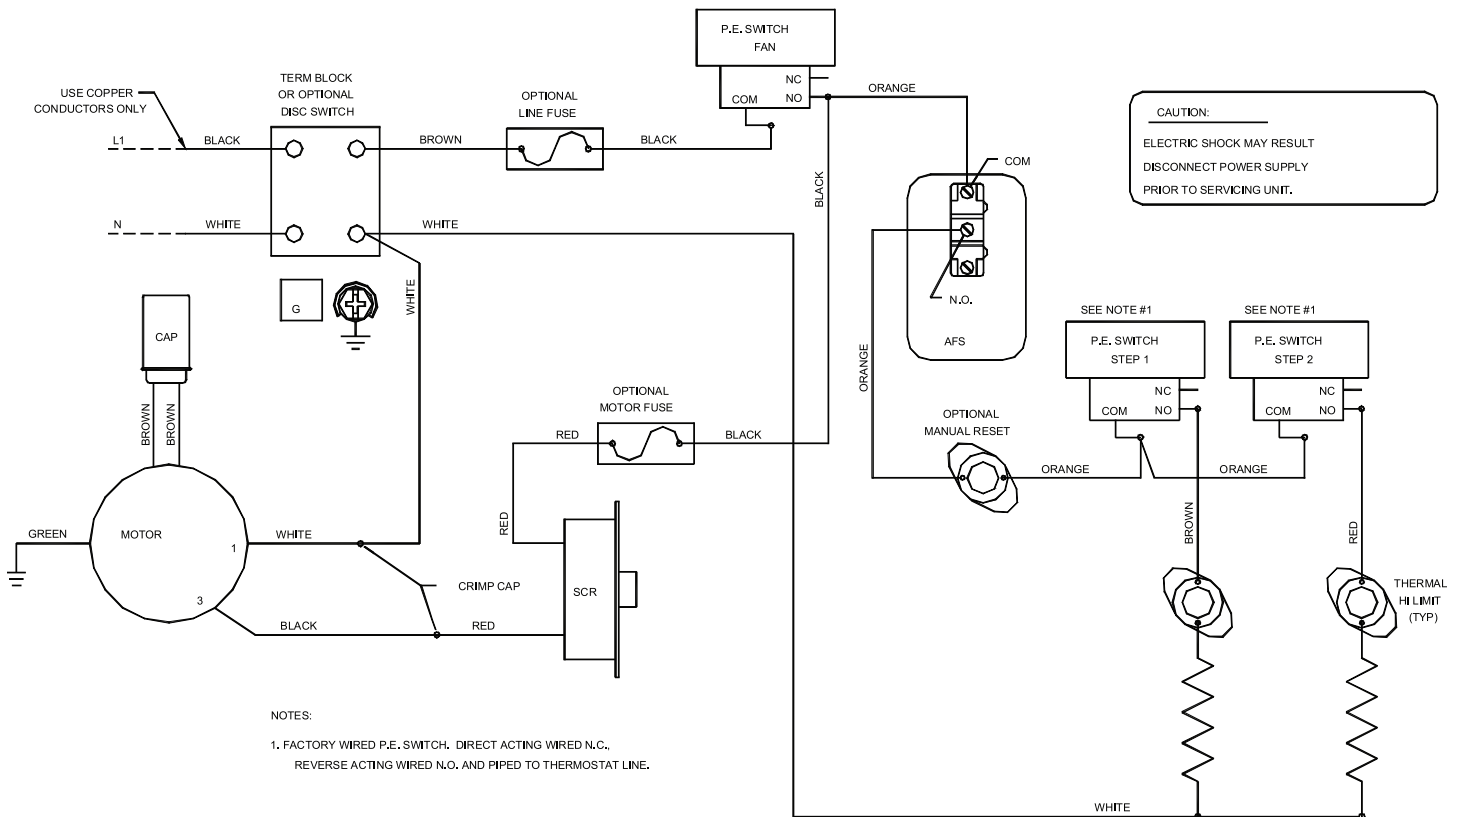

Figure 3
- Figure 3 Typical pneumatic parallel fan powered terminal with load bearing PE switches.